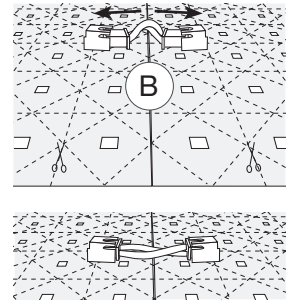

Figure 2
When connecting LED Sheets that are already mounted to a fixed surface, the short connection wires (B) will need to be shaped as shown in Figure 2 prior to pushing into connection blocks. Best practices include using two sheet-to-sheet connection wires for all adjacent LED Sheets in each Class 2 circuit to minimize voltage drop. Dry-fit test for proper illumination prior to mounting LED Sheets to the mounting surface and again before the forward facing material is installed.